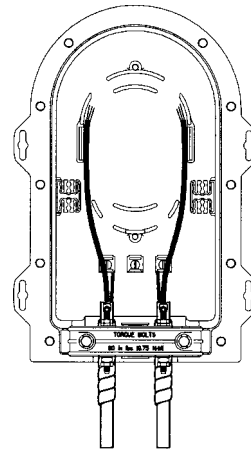

FIGURE 14 - ROUTING CENTRAL TUBES FOR CABLES IN OUTSIDE ENTRIES
7.02 Route the central tube from the outside cable entries over or outside of the small curved wall section and against the inside of the side wall section. (Figure 14)